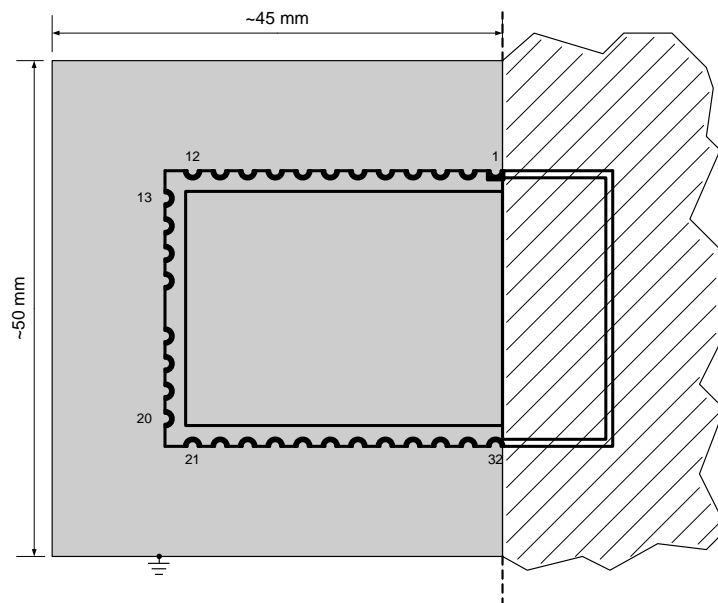

Figure 4-2: Recommended Environment
- As shown in Figure 4-2, the solid grey area must be a ground-plane on the Bottom Layer (or Layer 2 in a multi-layer structure) of the carrier board. Antenna matching and all other measurements were done with these dimensions.
- The hatched area shown in Figure 4-2 has to be free of material (e.g. PCB, metal, housing). If possible, the distance from the antenna area to any material should be at least $\lambda/2$ ^{see 3}.